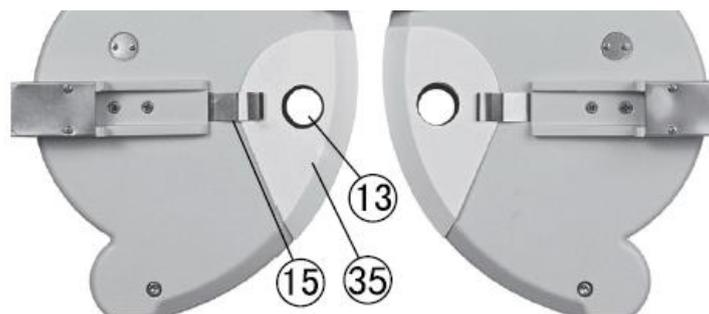

Fig.10
Attach face shield ③⑤ so that face shield clip ①⑤ catches it. Then align face shield aperture with examination aperture ①③ (Fig.10).